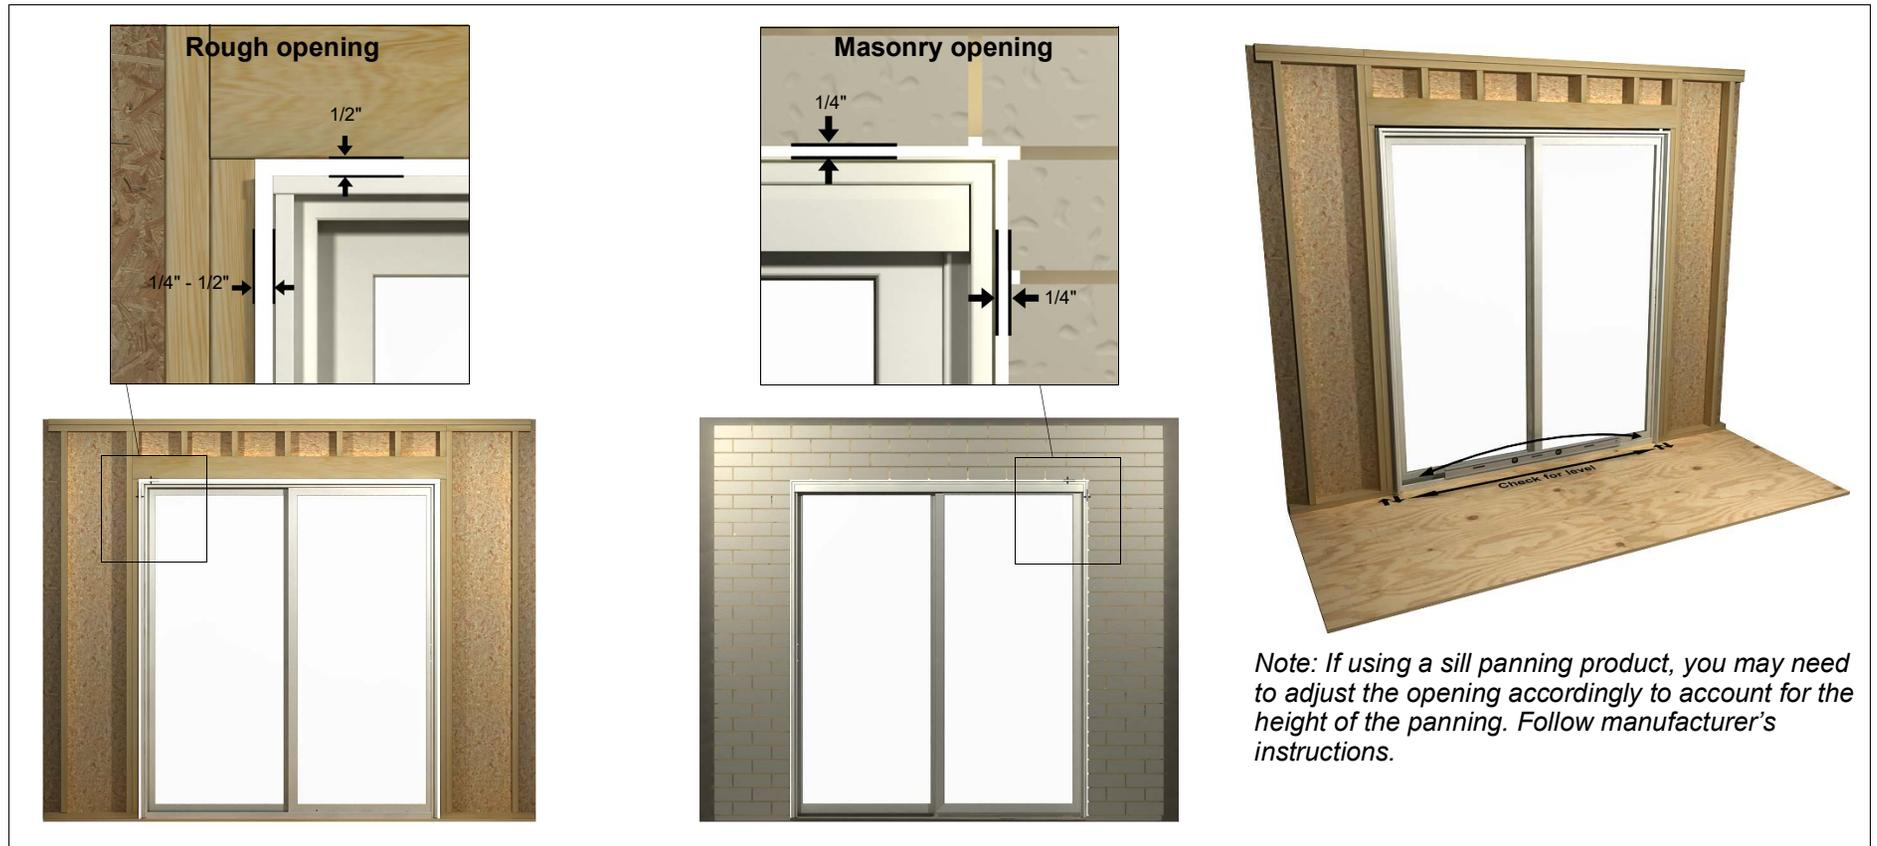

Figure 1 Typical rough and masonry openings.
1. See Figure 1 and the Technical Installation Specifications for rough and masonry opening gaps. When framing the rough opening, care should be taken to ensure the sill plate is level and the opening is square, straight and plumb.